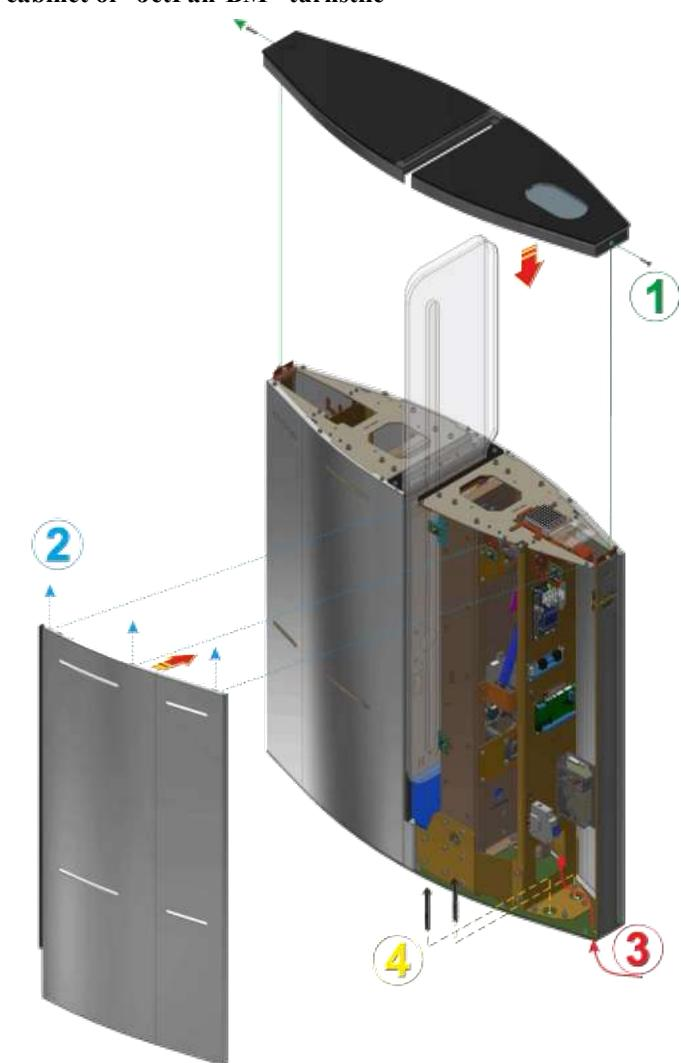

Fig. 19 – General view of the "JetPan-BM-1" turnstile cabinet installation
1. – remove the turnstile lid by unscrewing screws on the ends (See Fig. 19);